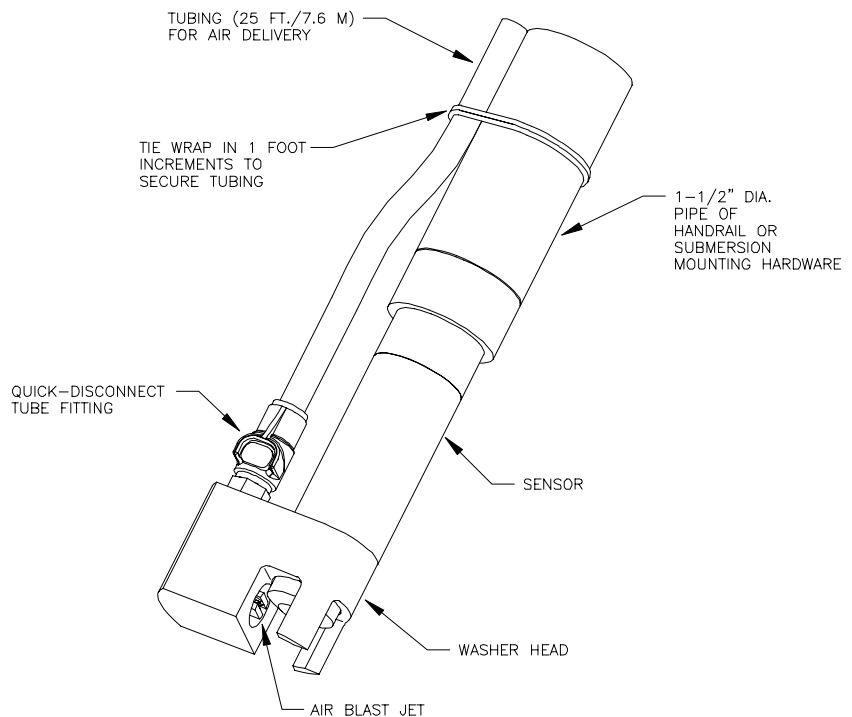
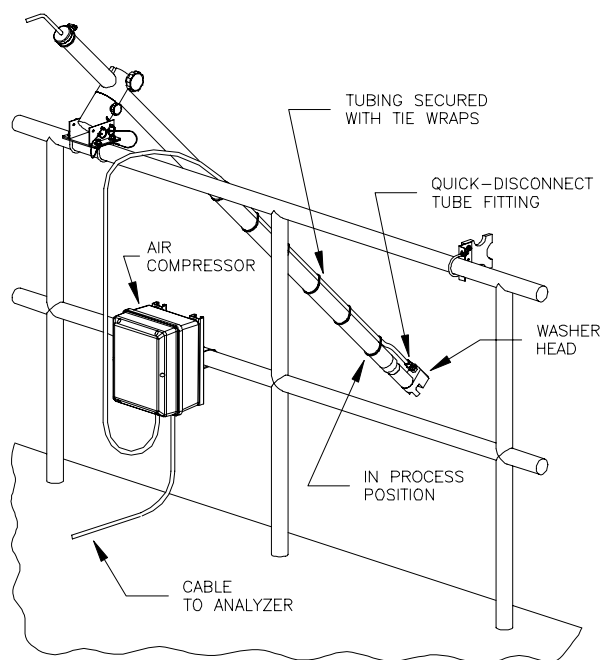

FIGURE 2-13
FIGURE 2-14
You may have an optional GLI washer head assembly (Figure 2-13) or a self-contained air blast cleaning system that also includes an air compressor (Figure 2-14). To install the washer head assembly, refer to subsection 7.1. See subsection 7.2 for air compressor installation details, including instructions for wiring it to a GLI Model P63, P53, or P33 analyzer.
1. Locate the air compressor near the installed sensor (Figure 2-14). Do not extend the GLI washer head tubing beyond its standard 25 ft. (7.6 m) length. This prevents exceeding the capacity of the air compressor and/or degrading the response time for air delivery.